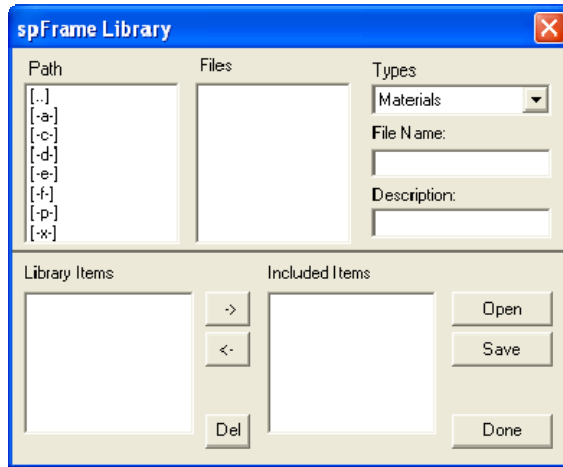

Figure 3-8 Library dialog box
- From the **Access** menu, choose **Library**. The dialog box of Figure 3-8 appears.